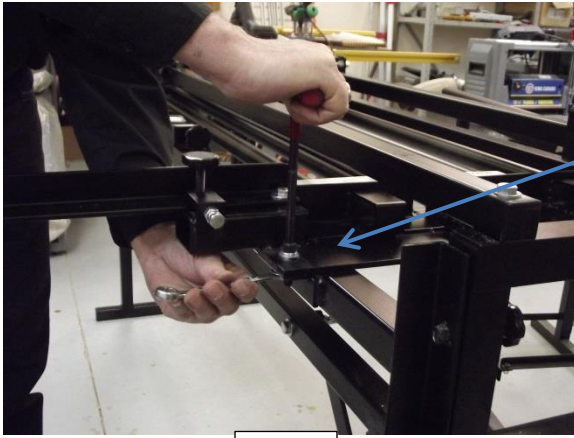

Fig 6
- 2) Note the two slotted side fence brackets welded to the Pro-Cut 50 frame located just before the roller table. Also note bolts, nuts and washers placed in the slots of the side fence brackets. Remove the nuts, bolts and washers. Place the side fence so the drilled holes in the base of the side fence line up with the slots of the side fence brackets of the Pro-Cut 50 frame. (see Fig 6 and 7)